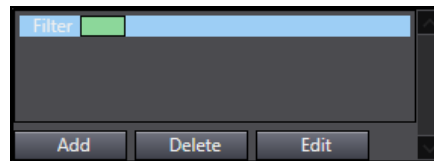

Figure 8-262 Color Matching Filters Pane
1. Right-click and drag in the image on the right to return the average color from the resulting rectangular region. For example, the Color in Figure 8-262 was created by clicking and dragging within one of the green-tinted bread slices of the corresponding image.